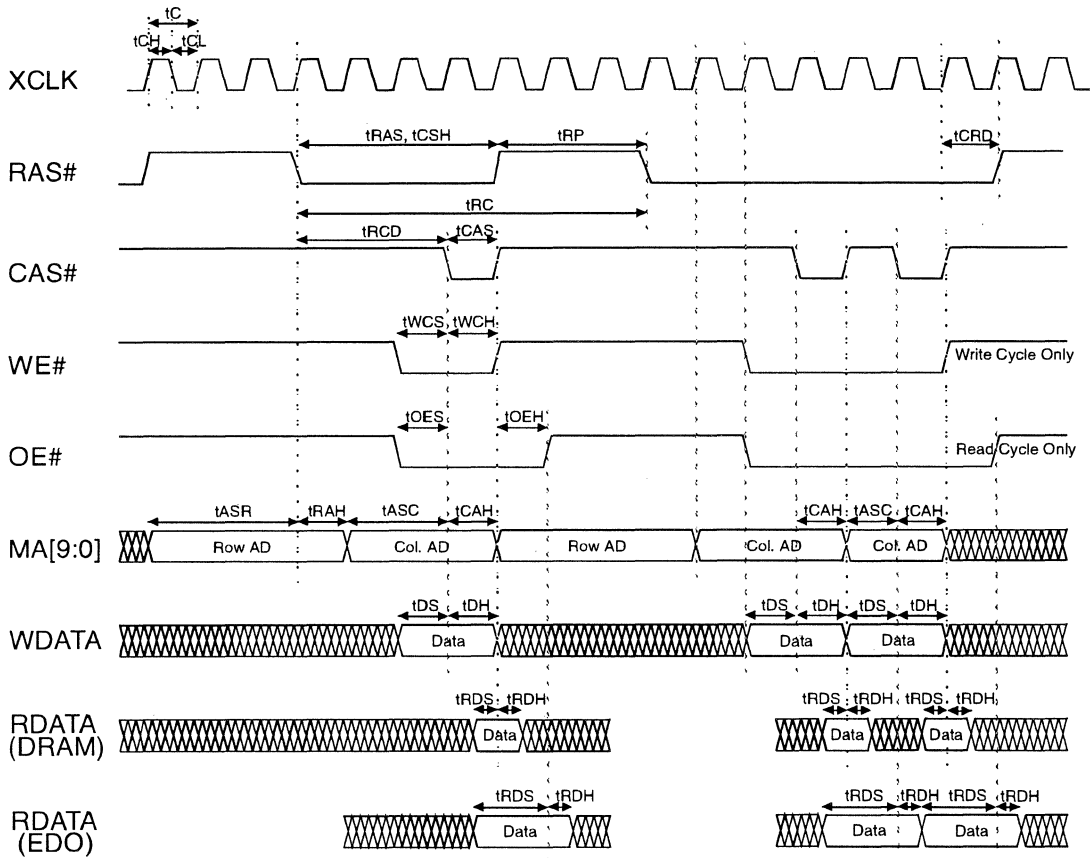

Figure 7-11. DRAM / EDO DRAM Cycle Timing
- DRAM / EDO DRAM Cycle Timing, see *Figure 7-11*.